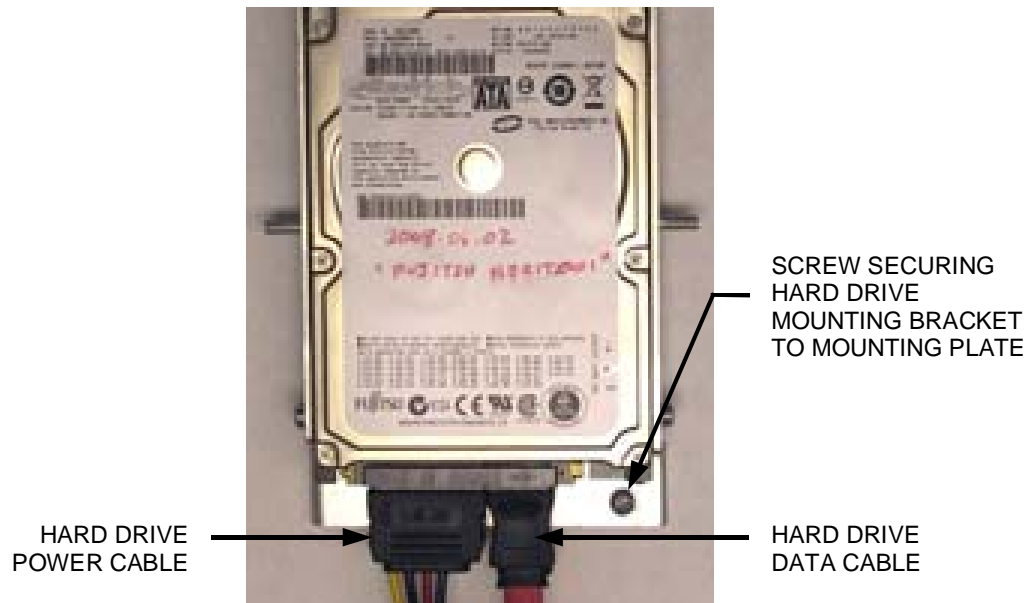

FIGURE 4 - CLOSEUP OF SATA HARD DRIVE
4. Remove the screw securing the hard drive mounting bracket to its mounting plate (see Figure 4). This screw will not be reused.
1. Slide the hard drive assembly onto the game's mounting plate and screw it into place to secure it (see Figure 4).
2. Attach the hard drive data and power cables (see Figure 4).